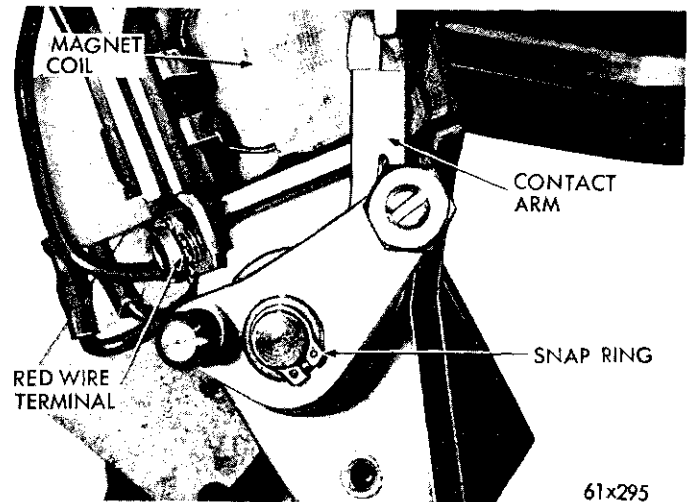

Fig. 23—Remove Snap Ring and Contact Arm from Pintle Shaft
(3) Disconnect the red motor wire at the bottom of the contact point #1 on the magnet assembly (Fig. 23).
(14) Remove the locking arm and spring washer from the pintle shaft.
(15) Remove the snap ring from the end of the pintle shaft and remove the contact arm from the shaft (Fig. 23).
(16) Remove the magnet and throttle over-ride switch assembly from the pintle shaft.